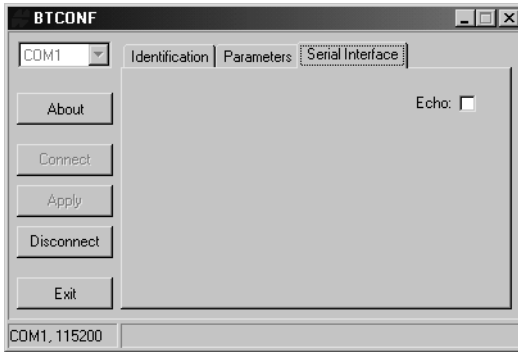

Figure 2-45. BTCONF Serial Interface Tab
- Click the **Serial Interface** tab (Figure 2-45). Enable Echo to display Bluetooth module replies and corresponding commands on the computer terminal. If needed, click **Apply**.